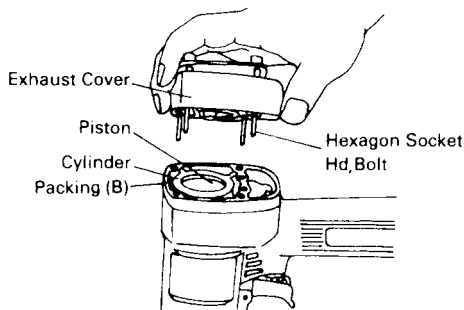

Fig. 9
(1) Removing procedures
- Remove four hexagon socket head bolts to disassemble the exhaust cover, whereby the piston is exposed. (See Fig. 9)
A depletion of cylinder oil or a worn O-ring may restrict smooth operation. In such instances, remove the piston as illustrated in Fig. 9, 10 and 11 and clean the cylinder interior. Then apply 2cc of the recommended oil over the cylinder interior surface. If the piston still refuses to offer smooth operation, replace the worn O-ring. Also, apply a thin coat of grease (HITACHI Electric Tool Grease No. 1 or HITACHI Motor Grease) to the cylinder interior and O-ring.